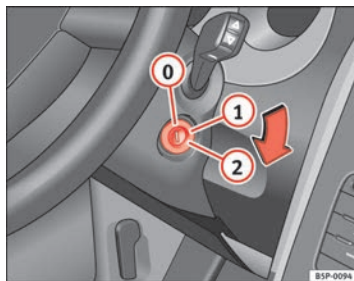

Fig. 117 Ignition key positions
In this position ⇒ fig. 117 the ignition and the engine are OFF and the steering may get locked.
- Turn the ignition key to position ⇒ page 162, fig. 117 ①. The indicator lamp  will light for engine pre-heating.
- When the warning lamp turns off, turn the key to position ② to start the engine. Do not press the accelerator.
- Turn the ignition key to position ⇒ page 162, fig. 117 .